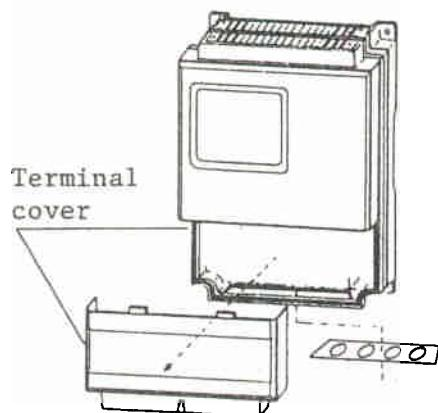

Fig. 1 Inverter Appearance
- (1) When some looseness is found on the installation surface, place a plate under the inverter mounting legs to eliminate the looseness before installation. When the inverter is installed in loose conditions, strain caused by such an installation adversely affects the main circuit element, possibly causing damage to the unit.
- (2) For the mounting wall surface, use a nonflammable material, such a steel sheet to avoid personal injury and a fire. (The heating element is located at the rear.)
- (3) Since the heat of approx. 5% of the rated capacity is generated from the inverter, special care should be given to the ventilation when the inverter is built in the box, for example.
- (4) When a plurality of inverters are stored within the box, arrange those units in line. The ambient temperature of inverter may increase, and fin overheat may trip the inverter if the units are stacked inside.
- (5) When installing the inverter inside the box, remove the terminal cover at the front lower part. (Refer to Fig. 1.)
- (6) The roof cover is recommended to install above the top ventilating cover of the inverter with the specified space so that the conductive materials of 3 mm or smaller size cannot enter the inside of the inverter. Such the conductive materials inside may cause the inverter damage.